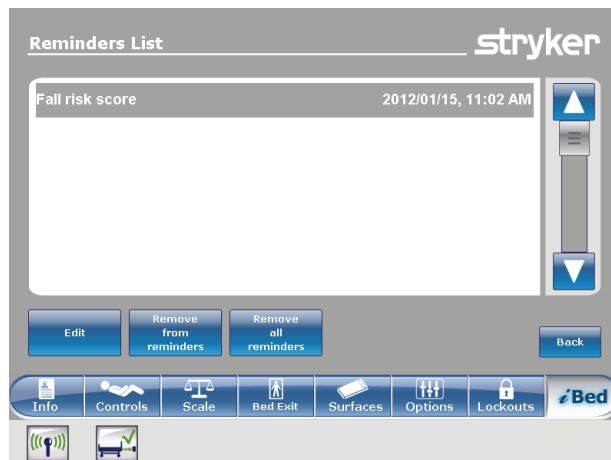

Figure 106: Reminders List
**View reminders list:** View a list of reminders and the values for the date, time, and reminder that was set (Figure 106 on page 97).
**Note:** The reminder is added to the **Reminders List** (Figure 106 on page 97).
The **Reminders List** screen lists reminders and the values for the date, time, and reminder that was set (Figure 106 on page 97).
To edit a time interval for a reminder, tap **Edit** (Figure 106 on page 97).
To remove the highlighted reminder from the reminders list, tap **Remove from reminders** (Figure 106 on page 97).
To remove all reminders from the reminders list, tap **Remove all reminders** (Figure 106 on page 97).
To return to the **Reminder** screen, tap **Back** (Figure 106 on page 97).